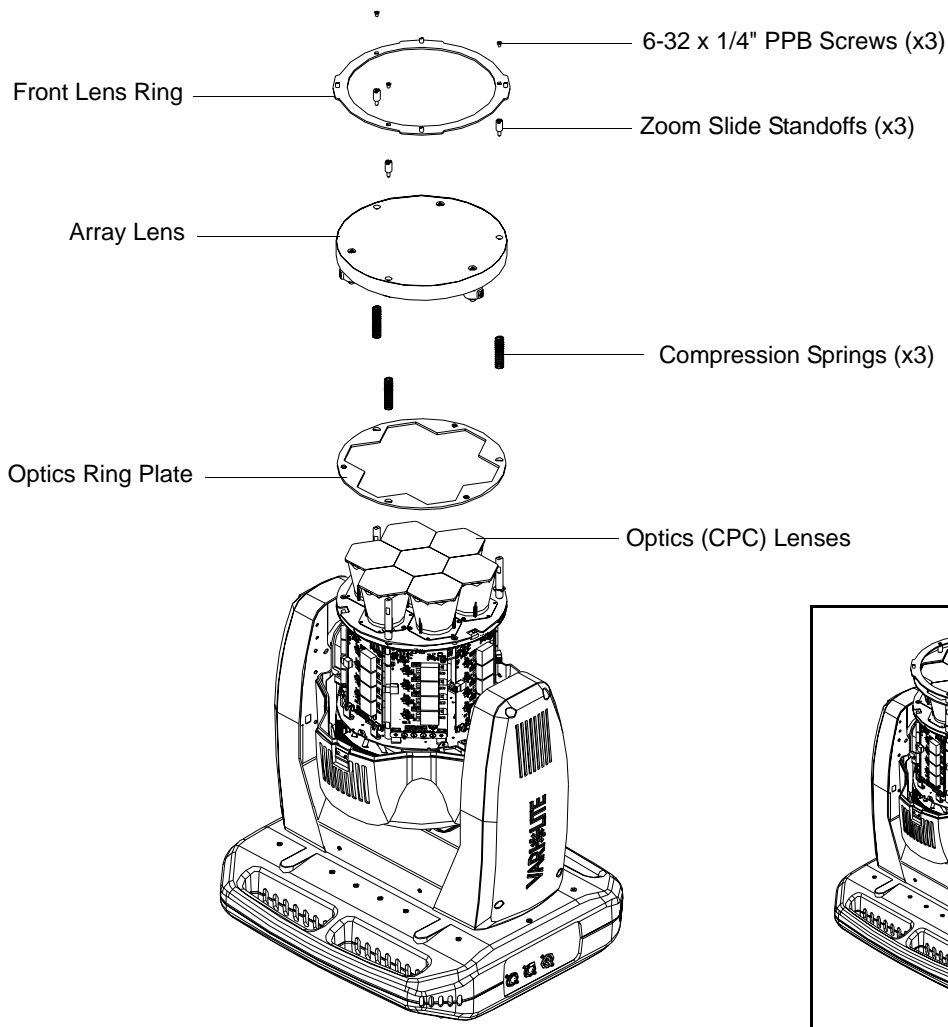

Figure A-4: Front Lens Removal
- Step 6. At head assembly, as shown in Figure A-4, remove front lens assembly as follows:
Step 6. At head assembly, as shown in Figure A-4, remove front lens assembly as follows: